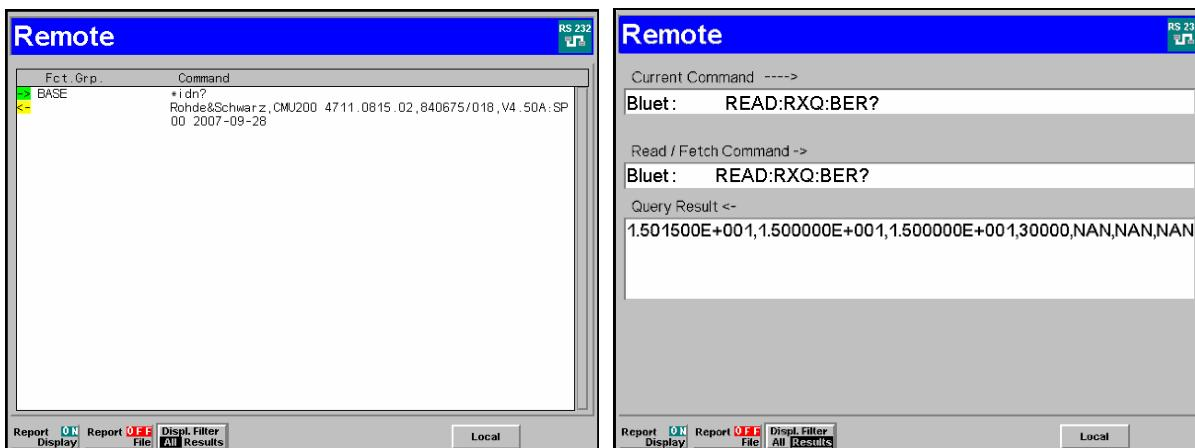

Fig. 5-1 Remote screen
*All* The remote screen shows all remote control commands that are exchanged between the controller program and the R&S® CMU (see example on the left-hand side of Fig. 5-1 above).
*Results* The commands are filtered: The remote screen only shows the current command (with a switched icon to distinguish several repeated commands) and the last `READ...?` or `FETCH...?` query sent to the R&S CMU, together with the received results. Compared to *Report Mode: All*, the font size is enlarged, and the secondary address string is abbreviated to 5 characters (e.g. *WCDMA* for *WCDMAUEFDD\_NSig*). (see example on the right-hand side of Fig. 5-1 above). This report mode is suited for a rough observation of the command sequence, with an emphasis of the received results.